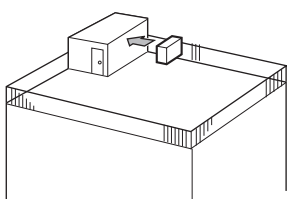

Fig. 1-2
- ① Face the air outlet towards the nearest available wall keeping about 50 cm distance. (Fig. 1-2)